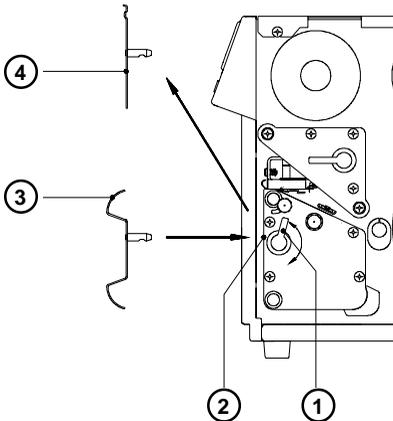

Fig. 13 I Mounting the rewind guide plate
Fig. 13 b Selecting the method of rewinding
Fig. 13 c Power supply module of the external rewinder
Fig. 13 d Rewinding directly onto the rewind axle
2. Feed the label strip over the guide bar and under the roller onto the rewriter axle (4) as shown in Figure 13 d.
3. Considering the required method of rewinding, attach the label strip appropriately to the rewriter axle (4) by sliding the clamp (5) over the label strip with the clamp set in the groove. (the broken line shows the path of inside rolled labels)
**Fig. 13 e Rewinding onto 3 in (75 mm) cardboard cores
1. Use a cardboard roll (3) which is about .04 in (1 mm) wider than the label strip.
3. Mount the first axle adapter (4) onto the rewinder axle (2) and slide it up to the disc (1). Tighten knurled screw (5).
4. Mount the second adapter onto the rewinder axle (2). Slide it towards the first adapter until the clearance between the edge of the adapter and the disc (1) is a little less than the width of the cardboard roll (3). Tighten knurled screw (5).
5. Slide the cardboard roll (3) over the two adapters (4) until it is touching the disc (1).
6. Feed the label strip over the guide bar and under the roller as shown in Figure 13 e up to the cardboard roll (3).
7. Using adhesive tape or a label, affix the end of the label strip to the cardboard roll (3). (the broken line shows the path of inside rolled labels)
8. Slide flange onto the rewind axle (2) until it stops at the cardboard. Tighten knurled screw.
Fig. 13 f Mechanical mounting of the cutter
Fig. 13 g Electrical connection of the cutter
Fig. 13 h Dismounting the lid
Fig. 13 i Mounting the internal rewriter (1)
3. Turn the whole assembly counterclockwise, so that the accessible hole in the flange (7) matches with the threaded hole (3) on the mounting plate.
4. Fix the rewriter at this point with on screw (2).
5. Turn the rewind plate (8), so that the two other holes (11,12) become accessible one after the other and insert screws at this two positions too.
6. Tighten all screws (10).
Fig. 13 k Mounting the internal rewriter (2)
Fig. 13 m Inserting the labels
5. Unroll a length of stock from the media roll and feed along as shown in Figure 13 m.
Fig. 13 n Mounting of the present sensor
Fig. 13 o Inserting the labels for peel-off
1. Lift the printhead by turning the lever (7) clockwise until it stops.
2. Loosen the knurled screw (11) and swing media retainer (10) backwards.
3. Place the media roll (8) onto the media hub (9). Swing the media retainer (10) to the media hub and inwards until it rests against the side of the roll. Tighten the knurled screw (11).
5. Unroll a length of media stock and feed it through the **Apollo** as shown in Figure 13 o. It is particularly important to ensure that the media strip slides properly between the adjustable fittings of the photocell assembly (17).